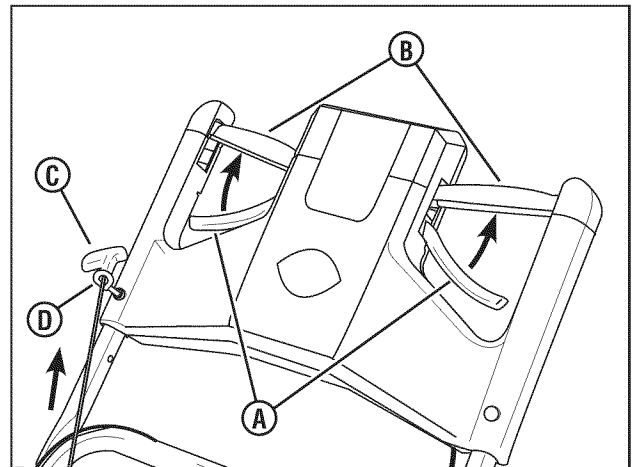

Figure 3: Starter rope handle
1. Squeeze the blade control (A, Figure 3) against the drive control (B).
2. Pull the starter rope handle (C) out of the engine to the rope guide (D). Hook the starter rope into the rope guide (it might be a tight fit).